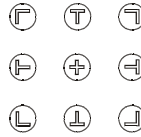

Figure 26: Preset Position Control Keys
- Using the preset position control keys (see Figure 26) on the infra-red remote control transmitter (see Figure 14), which instantly move the position of the zoom to up to nine preset fixed locations¹